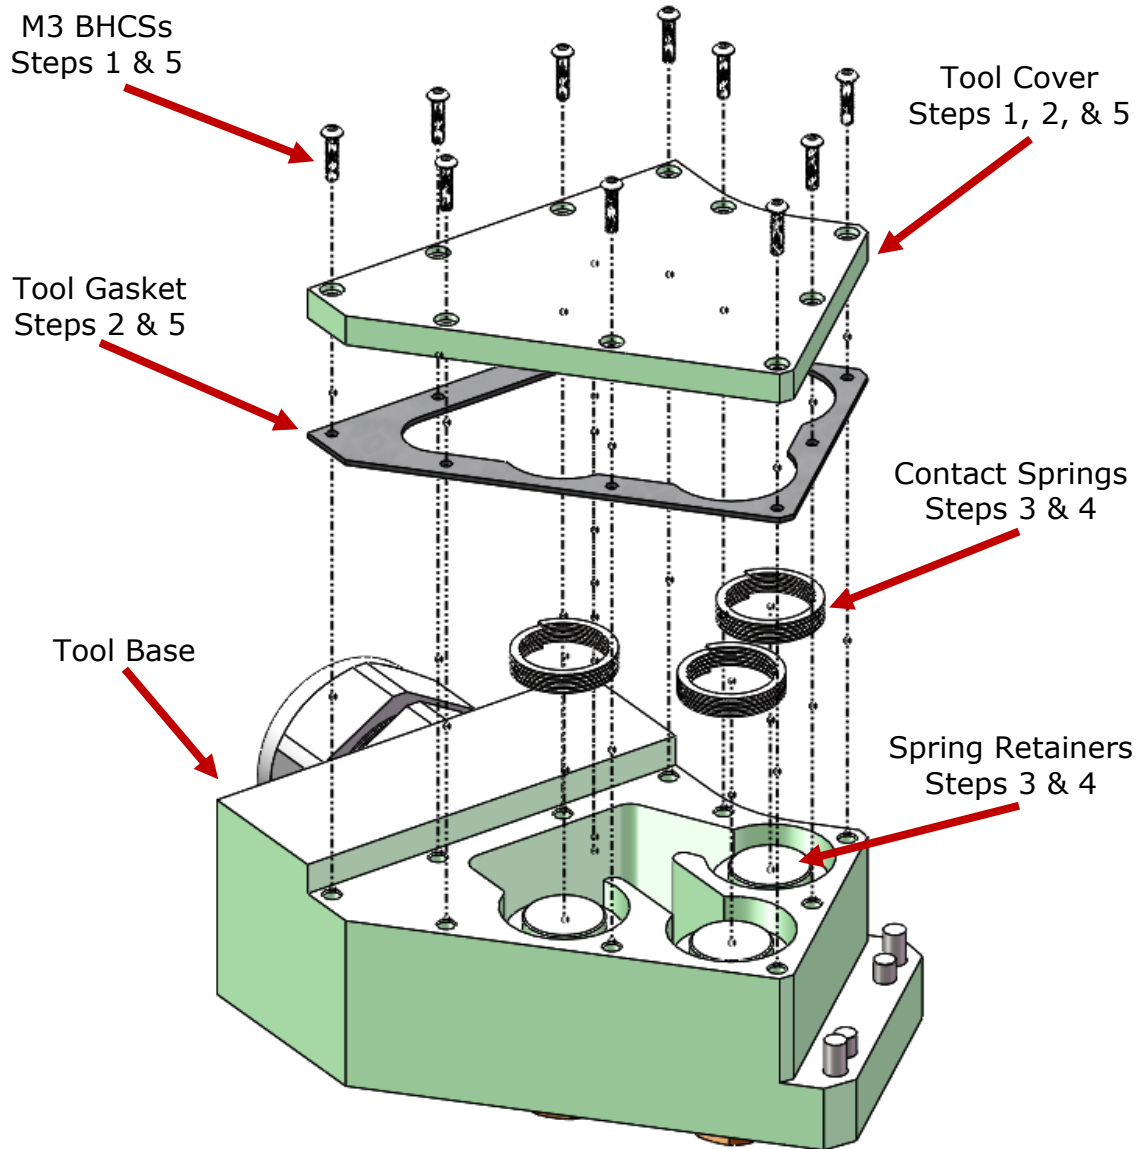

Figure 9.3-1. Contact Spring Replacement (Tool Side)
1. Remove M3 (1800095P) button head cap screws from Tool Cover (1800077M) as shown in Figure 9.3-1. Contact Spring Replacement (Tool Side).